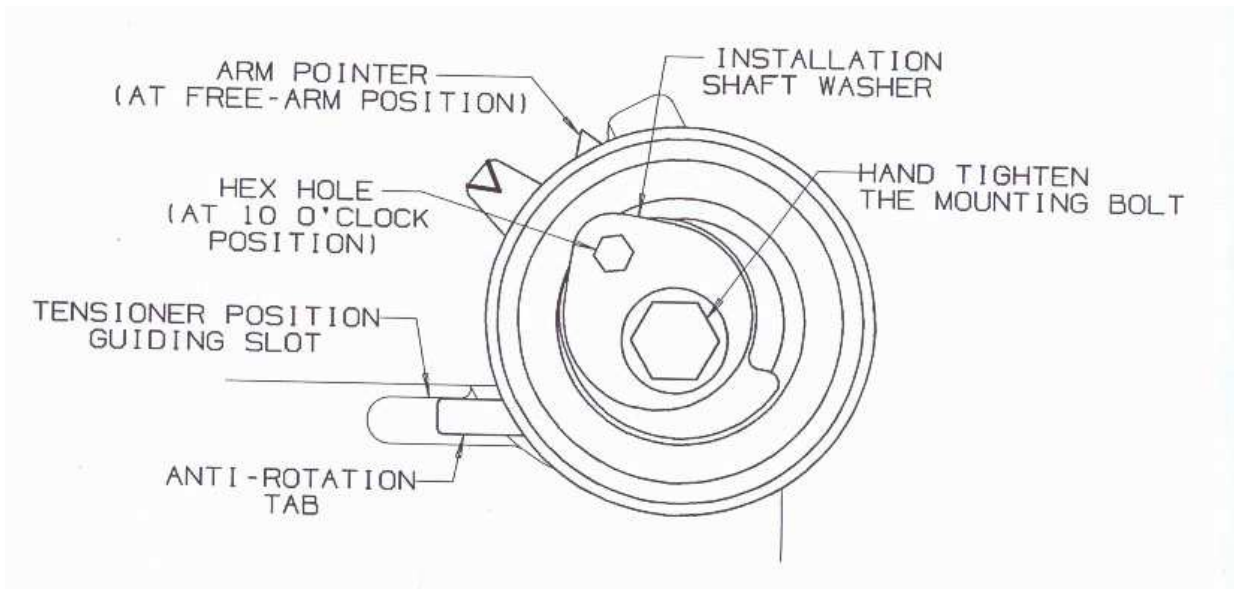

Figure 1: Tensioner shown at Free-Arm position placed on the mounting surface
5. Rotate the Installation Shaft Washer until the Hex Hole is pointing at the "10 O'clock position" then hand tighten the M8 Mounting Bolt (See Figure 1).
9. Remove both the Hex Key and the Wrench. Rotate the crankshaft two (2) complete revolutions manually for proper seating of the belt until the crankshaft is repositioned at the TDC position.
11. Engage the Hex Key and retain it's position while loosening the Mounting Bolt with the Wrench. The Mounting Bolt and the Tensioner do not need to be removed. Rotate the Installation Shaft Washer counterclockwise with the Hex Key until the Arm Pointer returns to the Free-Arm Position (See Figure 1). Follow step #6~10.